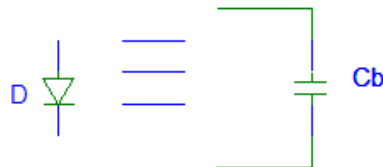

Fig.7.The AC equivalent circuit in reverse bias (small signal)
- If the diode is in reverse bias in DC, the AC equivalent circuit is the barrier capacitance (a capacitor) (Fig.7):